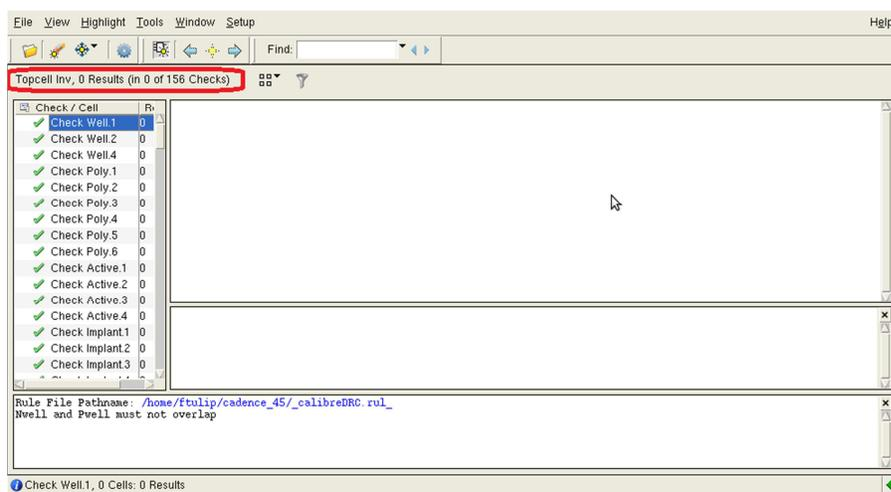

Figure 7: No DRC violation.
- To check any design rule violations, click on “**Calibre > Run DRC**”, then click on the **Run DRC** button. If you have done every step correctly, you will get no errors, like figure 7.